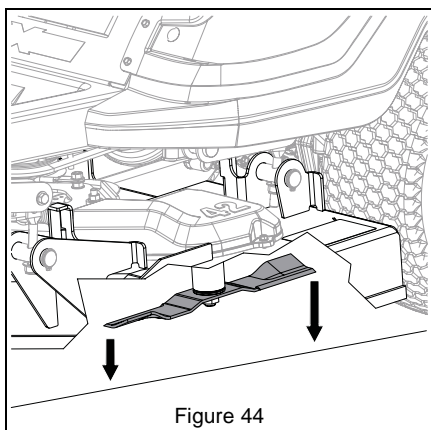

Figure 44
3. On both sides of the unit, measure the distance to the ground at the front and rear tip of the blade. See Figure 44.